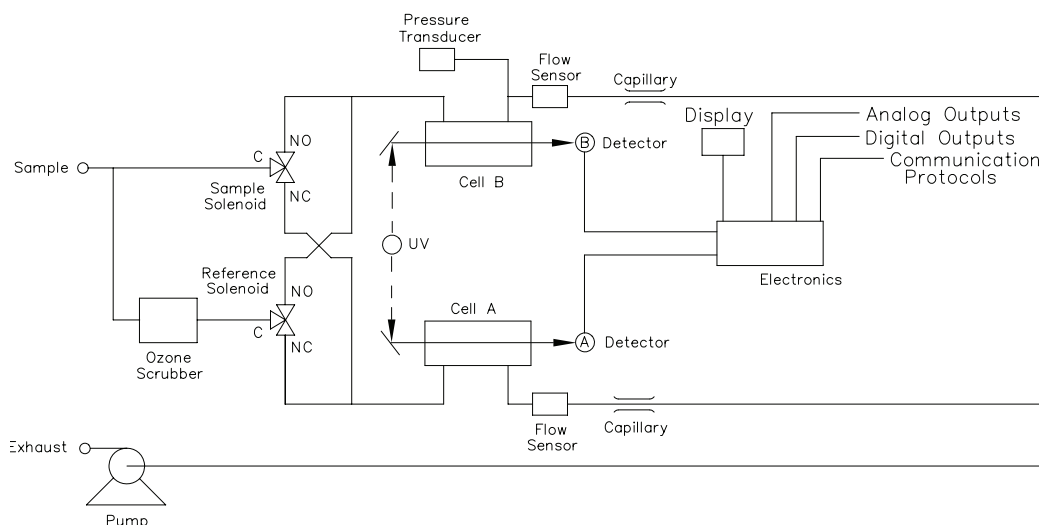

Figure 1-1. Model 49i Flow Schematic
The sample is drawn into the Model 49*i* through the *sample* bulkhead and is split into two gas streams, as shown in Figure 1-1. One gas stream flows through an ozone scrubber to become the reference gas (I_o). The reference gas then flows to the reference solenoid valve. The sample gas (I) flows directly to the sample solenoid valve. The solenoid valves alternate the reference and sample gas streams between cells A and B every 10 seconds. When cell A contains reference gas, cell B contains sample gas and vice versa.